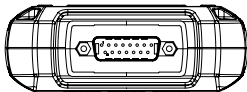

Figure 2.1.2
7. DB15 Male Connector: The connector is used to connect the OBD-II diagnostic cable. (See Figure 2.1.2)